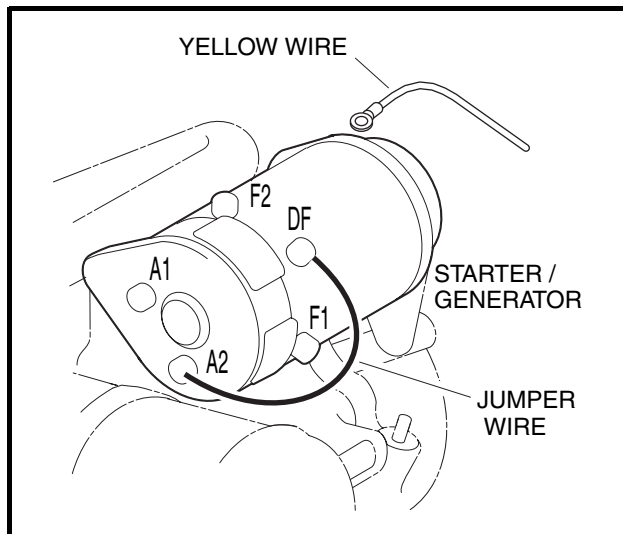

Figure 11-13 Jumper Wire Ground – DF to A2
3. Disconnect the yellow wire from the DF terminal on the starter/generator. Cover the connector on the yellow wire to make sure the yellow wire will not short to ground. Then, using a jumper wire, ground the DF terminal to the A2 terminal (**Figure 11-13, Page 11-17**).